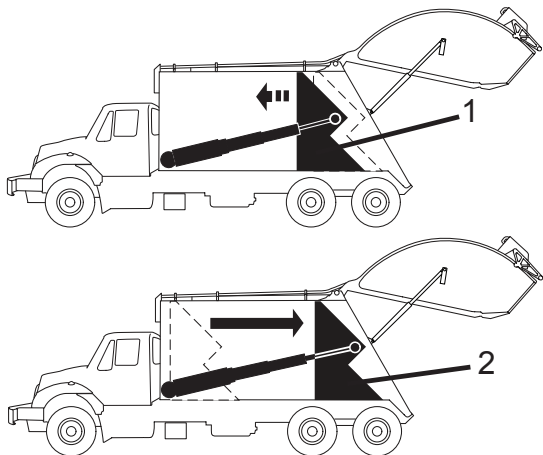

Figure 22
The ejector performs packing and retracting functions while the collector is loaded, and ejecting the load when dumping. The Smart-Pak® functions (Figure 22, Item 1) operate automatically as the slide panel packs the container. A Smart-Pak cartridge detects the amount of pressure being used. When this reaches a pre-determined setting, the ejector retracts to allow additional refuse to be packed. The functions for the ejector are controlled by the ejector lever located on the front external controls.
1. To eject a load (Figure 22, Item 2), PUSH in the ejector lever until the ejector reaches the full ejection of the load.